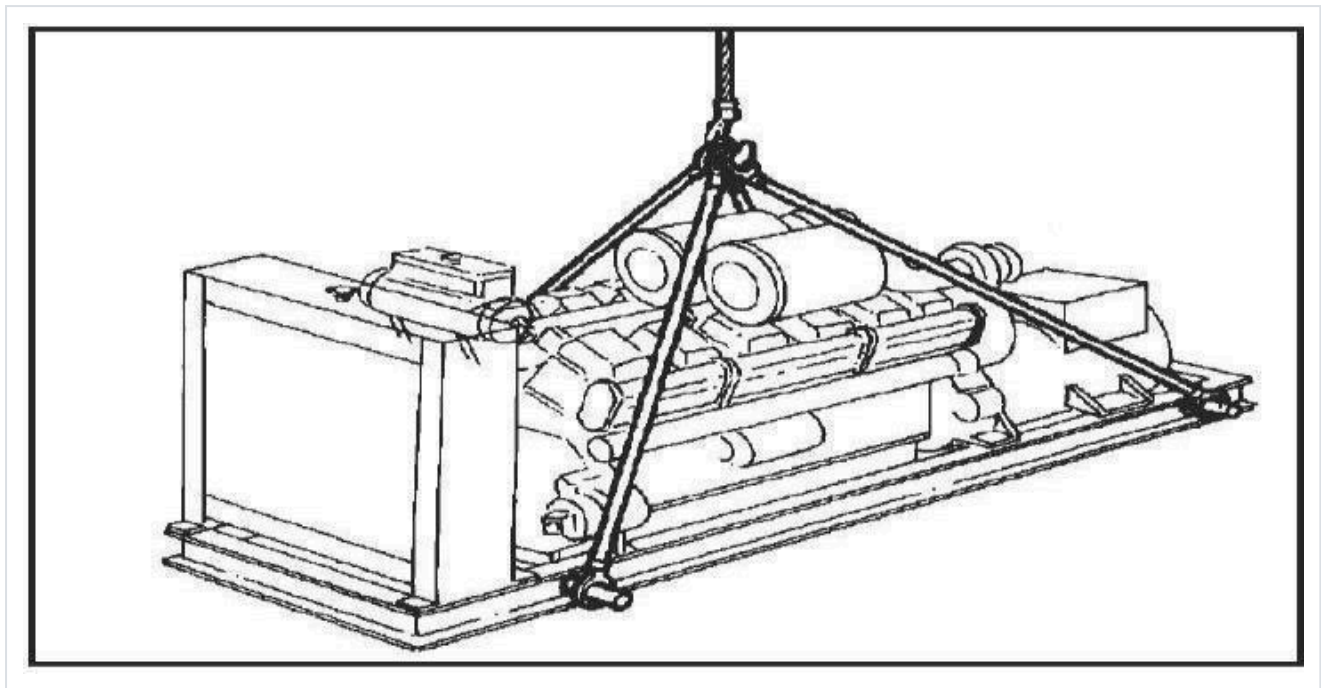
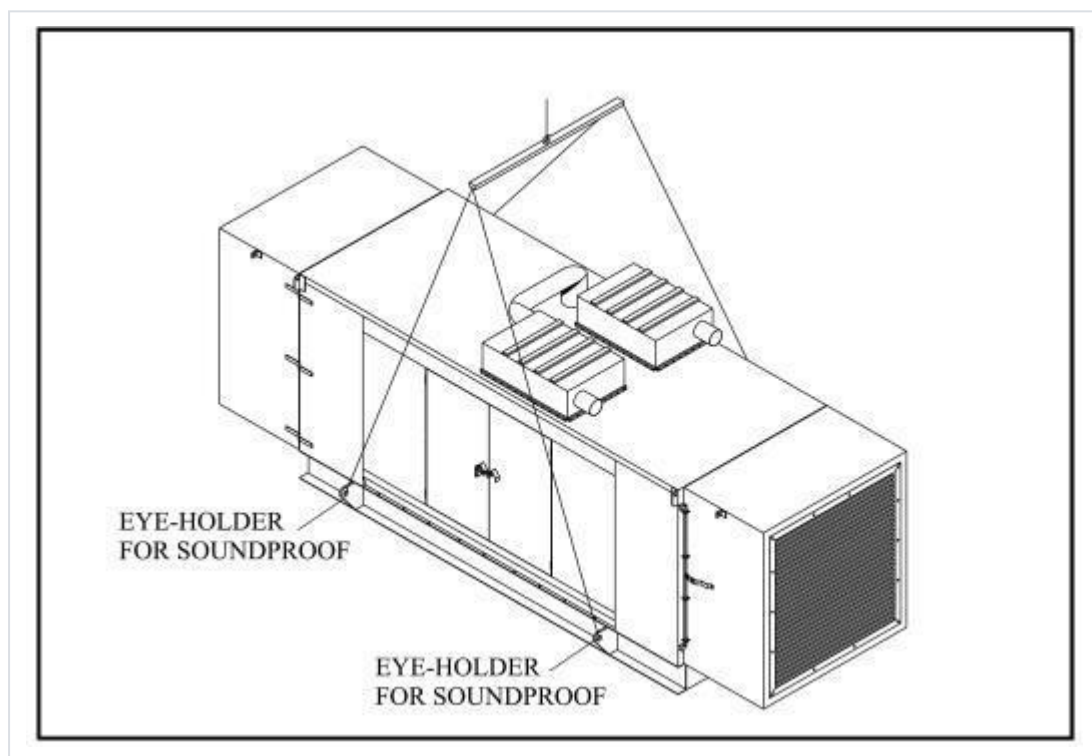

FIG. 8 — Lifting an open generator set.
FIG. 9 — Lifting a canopied generator set by the eye-holders provided.
- Generator sets and canopies must be lifted using suitable lifting equipment and the correct lifting procedure (FIG. 8 and FIG. 9). Generator sets and canopies must be lifted from below upwards, taking account of the even distribution of weight across the four lifting points.